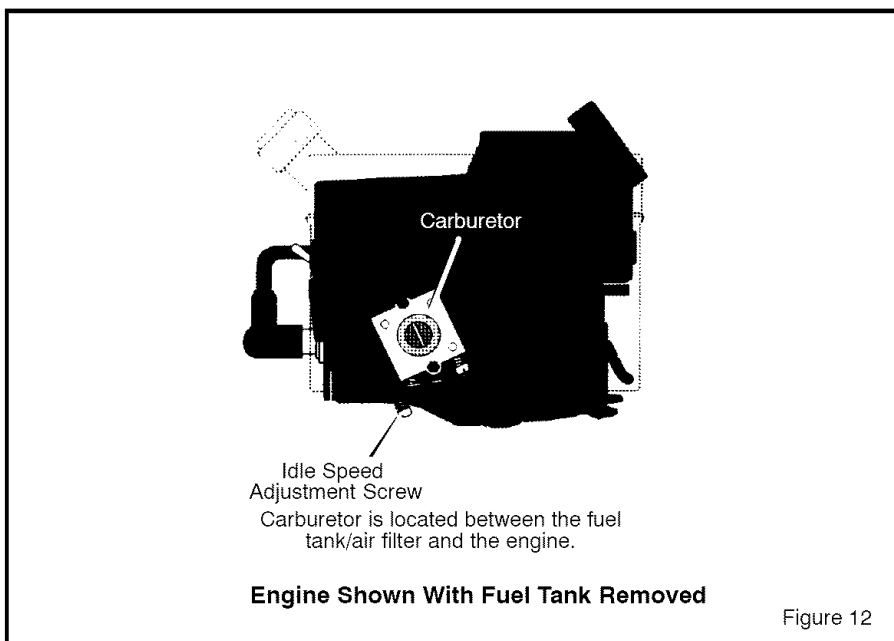

Figure 12
2. Locate the **idle speed adjustment screw** (see Figure 12). Turn the **idle adjustment screw** 1/4 turn clockwise (to the left).